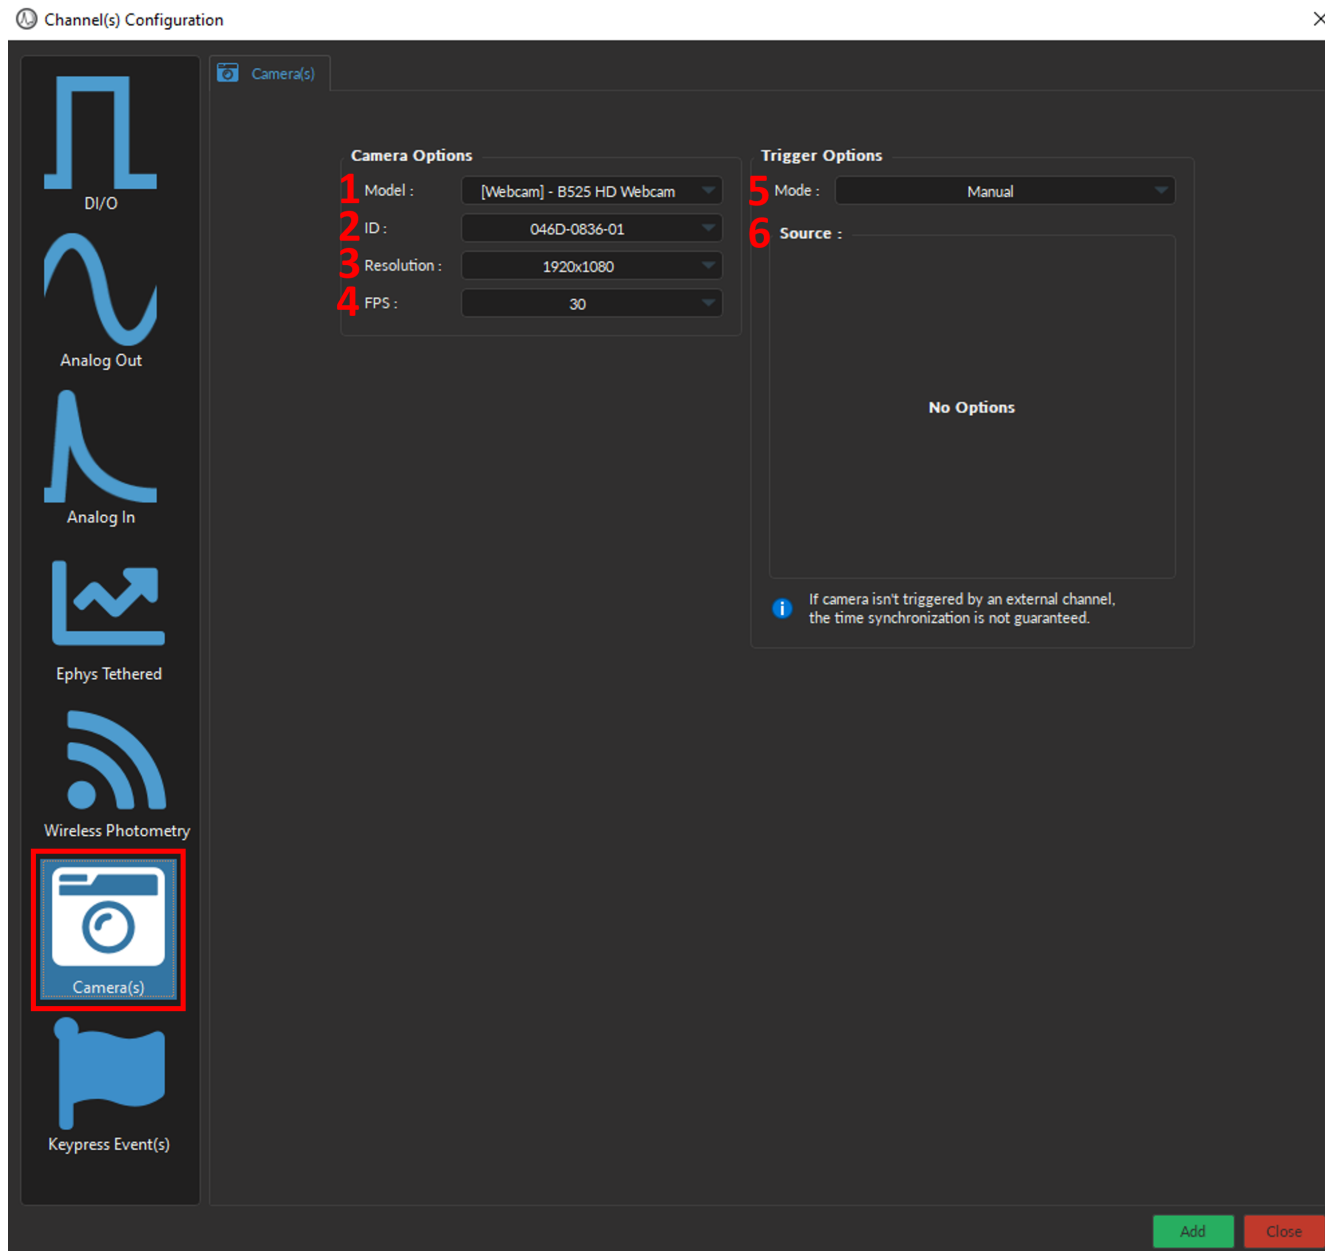
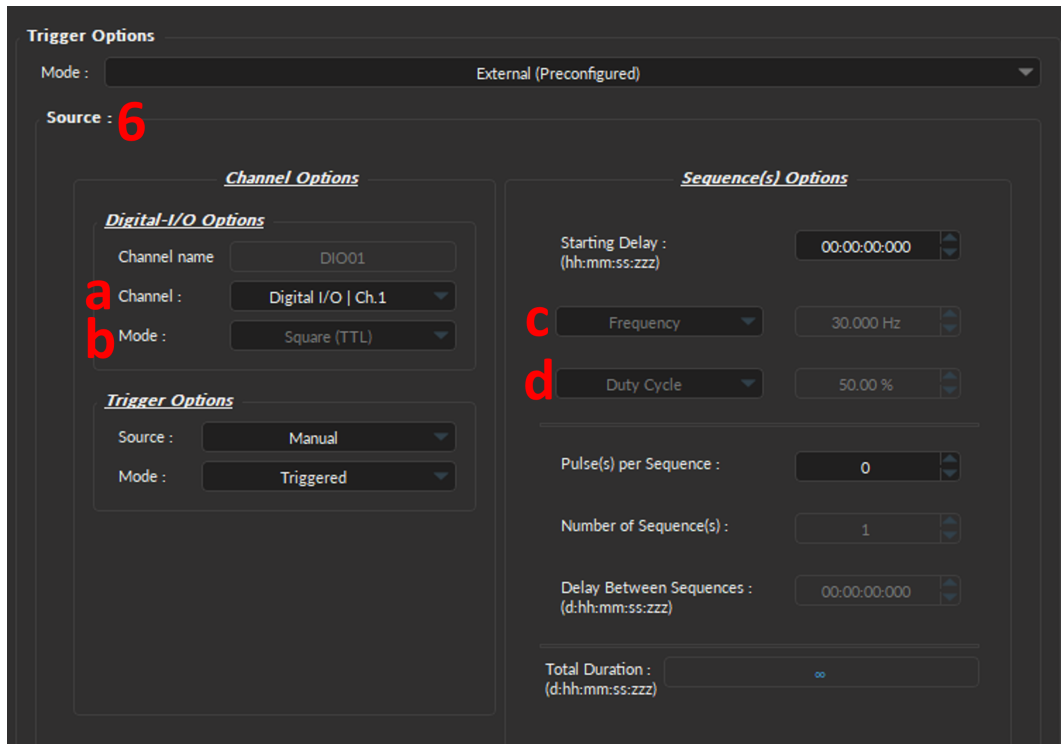

Figure 11.55: Channel(s) configuration window, Camera
Figure 11.57: Channel(s) configuration window, Camera - External (Preconfigured)
1. The **Model** (Fig. 11.55, 1) allows you to select the camera of choice based on the type of camera. Note that a *Doric Behavior Camera* provides DIO synchronization option (such as **External** and **External Preconfigured** modes) that are not available with a typical USB 3.0 web camera.
2. **ID** drop-down list (Fig. 11.55, 2) is used to select a camera based on its unique ID. The ID is beneficial when multiple cameras of the same model are required for the experiment.
3. The **Resolution** (Fig. 11.55, 3) is used to set the size of the image. The larger the number of pixels used for width x height, the better the resolution. Currently, image size can range between 160x120 to 1920x1080 pixels.
4. The **FPS** (Fig. 11.55, 4) is used to specify the frame rate of the camera (i.e. the number of images displayed per second). FPS can be any value between 5 to 30 for web cameras and up to 60 FPS for the *Doric Behavior Camera*.
5. The **Mode** (Fig. 11.55, 5) sets the type of trigger that will control the camera. Depending on the type of camera, at most three modes are available:
6. The **Source** (Fig. 11.55, 6 & Fig. 11.57, 6) is only used for the **External (Preconfigured)** mode, and displays the **Digital I/O** channel with the preconfigured parameters that will be created at the same time as the **Camera Channel** (Fig. 11.57). For a detailed description of each Digital I/O parameter see Section 11.6.1. Briefly, key parameters include:
- a) The **Channel** (Fig. 11.57, a) corresponds to the physical Digital I/O channel number on the NC500 that is connected to the trigger cable of the *Doric Behavior Camera*.
- b) The **Mode** (Fig. 11.57, b) is by default set to *Square (TTL)*, which provides the external trigger signal to the camera. This parameter cannot be changed.
- c) The **Frequency** (Fig. 11.57, c) corresponds to the **FPS** set in the **Camera Options**. Changing the **FPS** will automatically change the **Frequency** in the **Sequence(s) Options**.
- d) The **Duty Cycle** (Fig. 11.57, d) is by default 50%. The frame will be taken at the start of each square pulse.